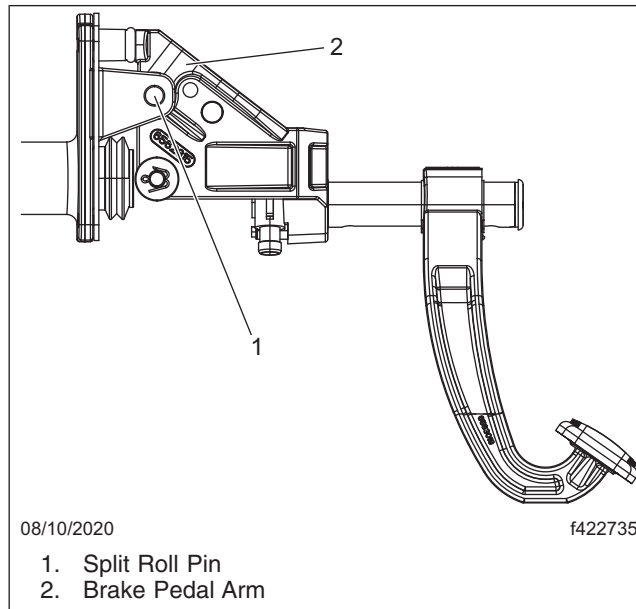

Fig. 6, Brake Pedal Disassembly
8. To disassemble the brake pedal, remove the split pin from the roll pin, then tap on the roll pin from the passenger side and take the roll pin out from the driver side. See Fig. 6. Go to **installation** below.
4. Install the new split pin into the brake pedal roll pin from the inside of the cab. See Fig. 6.